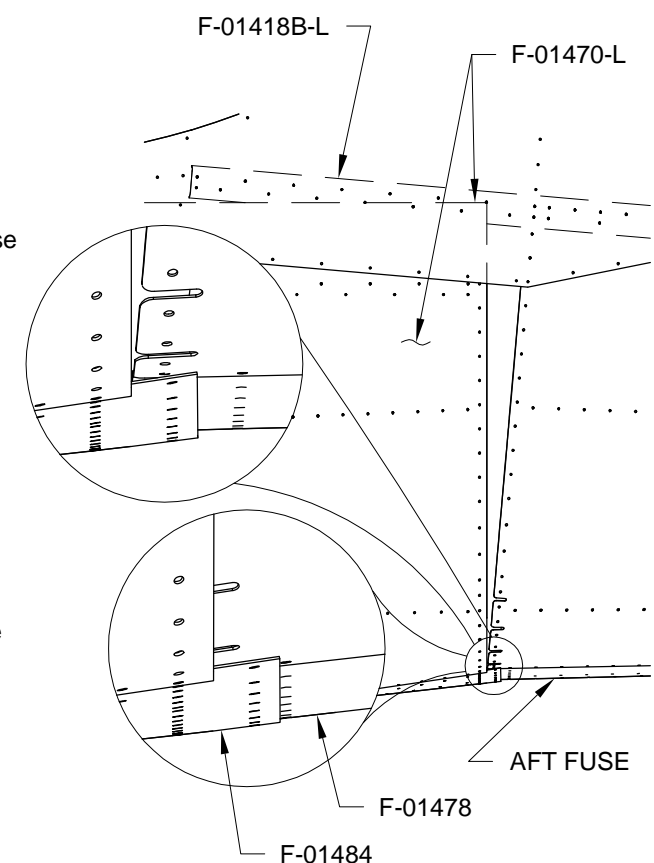

FIGURE 4: AFT FUSE INSERTION
Continue lowering the Aft Fuse until the F-01478 rests on the F-01484 Center Bottom Skin as shown in the upper detail in Figure 4.
Step 7: Slide the Aft Fuse fwd while deflecting the Fwd Fuse side skins outboard to allow the F-01478 to pass beneath the baggage ribs as shown in the lower detail in Figure 4.